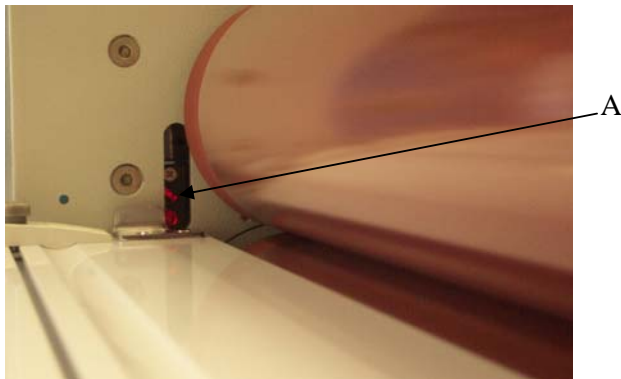

Figure 15
**Electronic Safety Beam:** (Fig.14-Item A and Fig. 15–Item A)